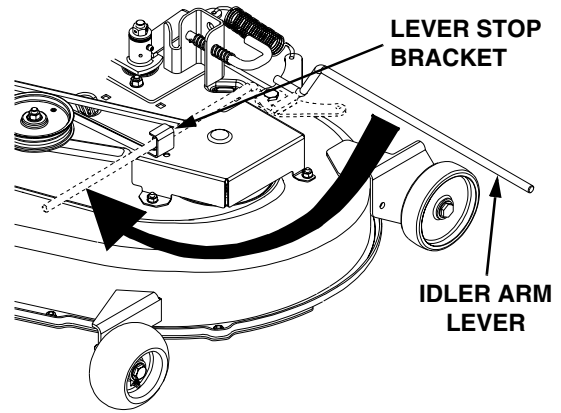

Figure 62
- While holding the belt in position, rotate and engage the deck idler arm lever into its stop bracket to provide tension on the PTO belt (Refer to Figure 62).